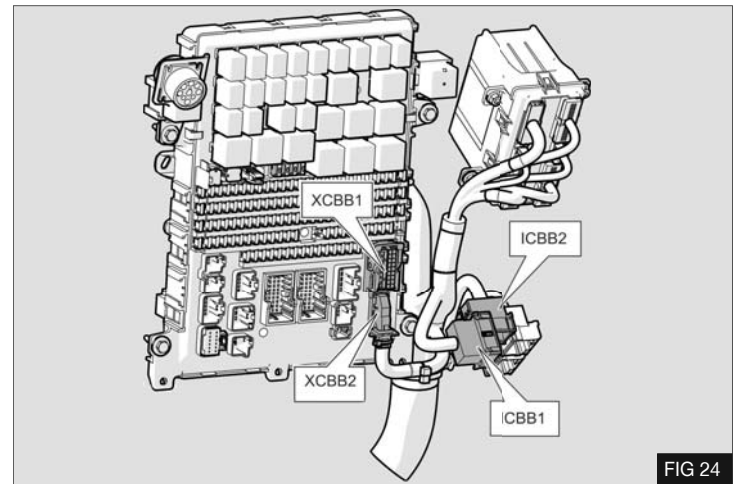

FIG 24
3. Make connections in socket **XCBB1** within the Electrical Junction Box (EJB). - Figs 24 & 25
1. Locate connector ICBB1. - Fig 24